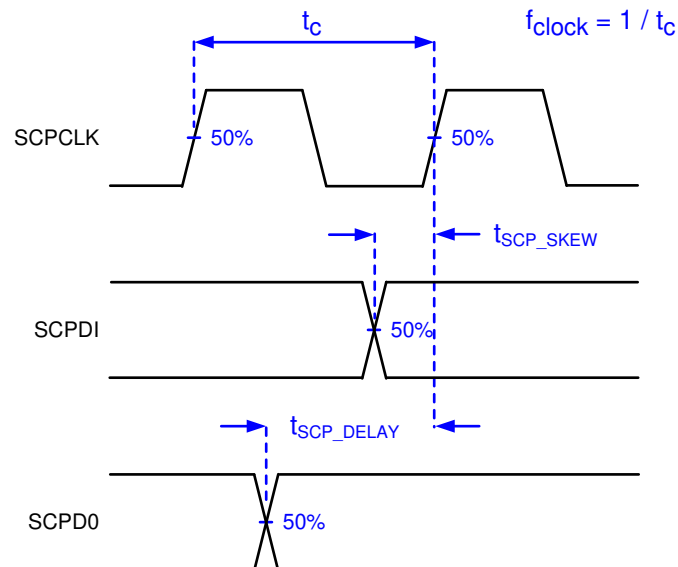

图 6-3. Serial Communications Bus Timing Parameters
- (5) PWRDNZ input pin resets the SCP and disables the LVDS receivers. PWRDNZ input pin overrides SCPENZ input pin and tri-states the SCPDO output pin.
- (6) The SCP clock is a gated clock. The duty cycle shall be 50% $\pm$ 10%. SCP parameter is related to the frequency of DCLK.
- (7) Refer to 图 6-3.
- (8) SCP internal oscillator is specified to operate all SCP registers. For all SCP operations, DCLK is required.
SERIAL CONTROL BUS TIMING PARAMETERS (See 图 6-3 and 图 6-4)